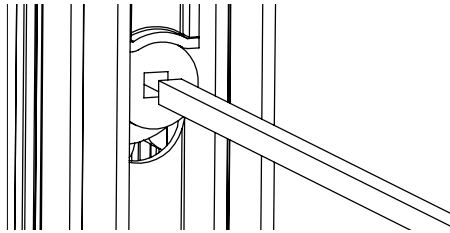

Fig. 5
18. Insert square rod into the bottom rung of the base rail and into the square hole of the attached side of the leveler. (Fig. 5) The square rod must be in the center of the rung to rotate properly.